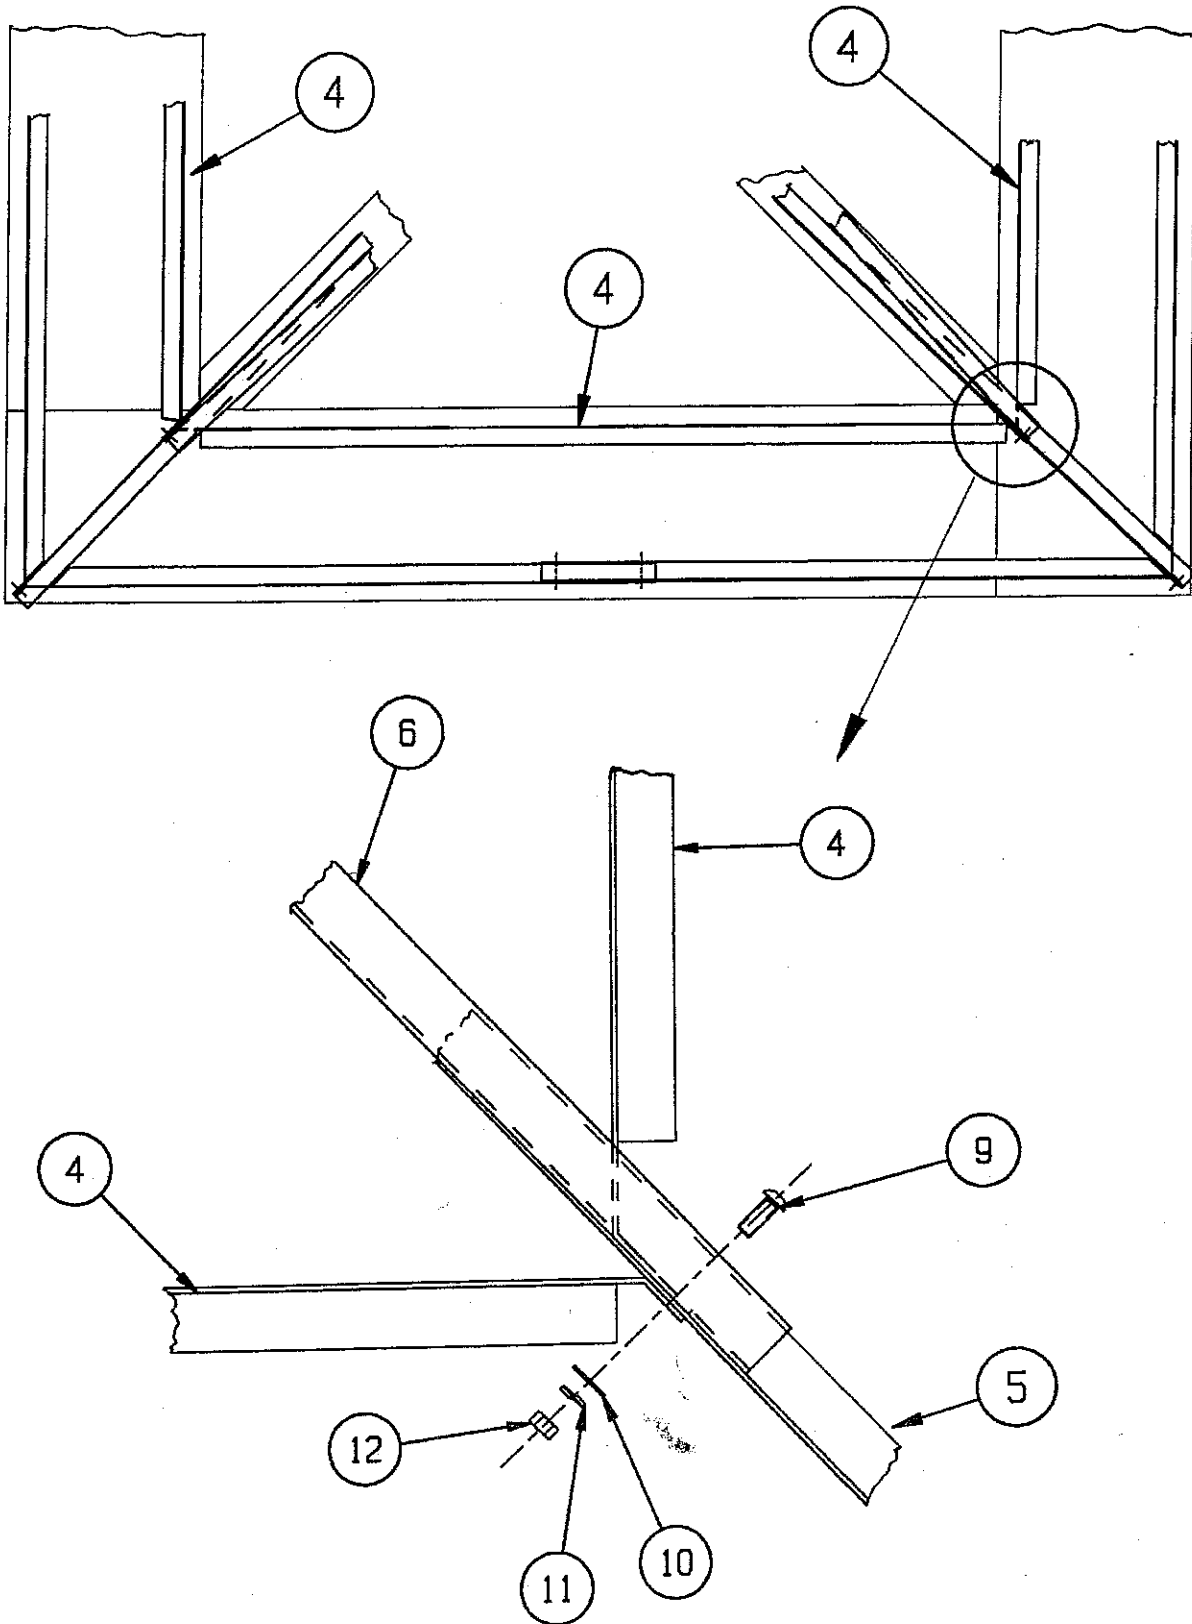

Figure 6
- STEP 7: Position the (4) inner brace angles (item 4) as shown in Figure 6 and secure to the mast brace angle and diagonal base angle with a 3/8" carriage bolt, flatwasher, lockwasher, and hex nut (item 9, 10, 11, & 12).